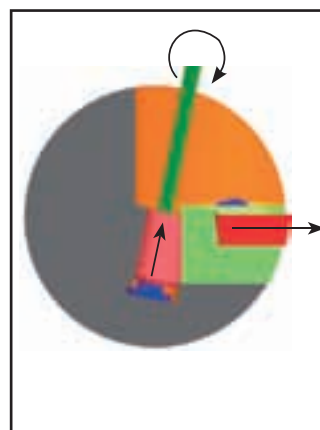

Fig. 7: OPERATION
2. Adjust taper or diameter respectively via the TWA adjustment (fig. 7), whilst doing so move to within 0.05 mm in diameter of the setting dimension of the indexable insert (if necessary loosen cartridge clamping screw again).